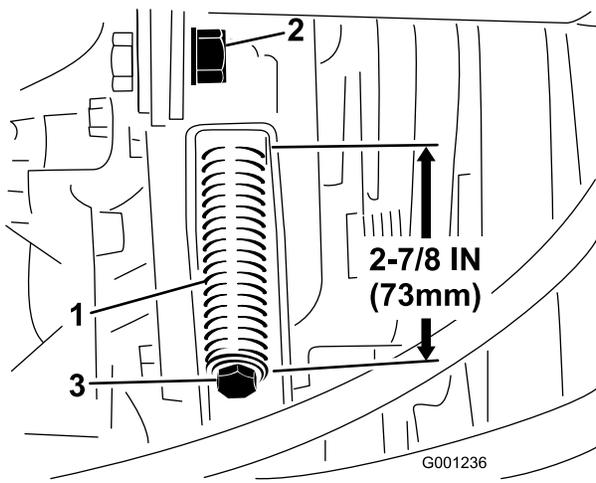

Figure 64
3. Loosen the tensioning rod jam nut (Figure 64).
4. Use a 1/2 inch wrench to tighten or loosen the belt tensioning spring (Figure 64). Adjust spring to a length of 2-7/8 inches (73 mm).
4. Using a 1/2 inch wrench, loosen the belt tensioning spring (Figure 64) all the way.
6. Install the new PTO belt and tension the pulley spring to 2-7/8 inches (73 mm) (Figure 64).
7. Tighten the jam nut (Figure 64) and close the hood.